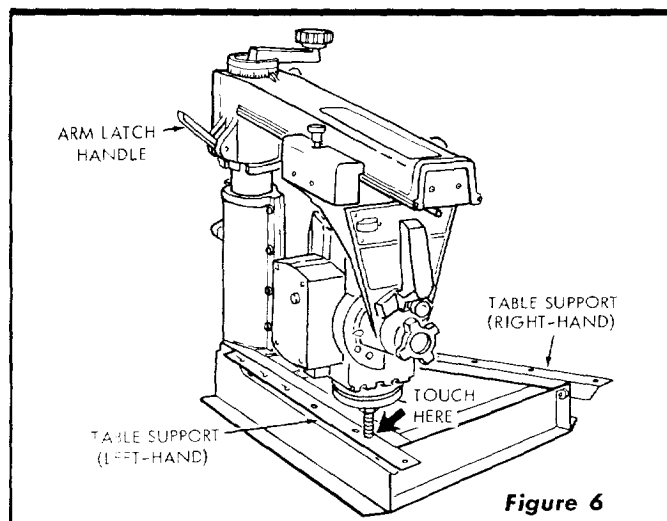

Figure 6
- h. Move the carriage out to the end of radial arm and move the arm until the end of motor shaft is over the table support at this position. (See figure 6.) Tap
the table support upward or downward until the end of motor shaft just touches the surface. (See figure 6.)